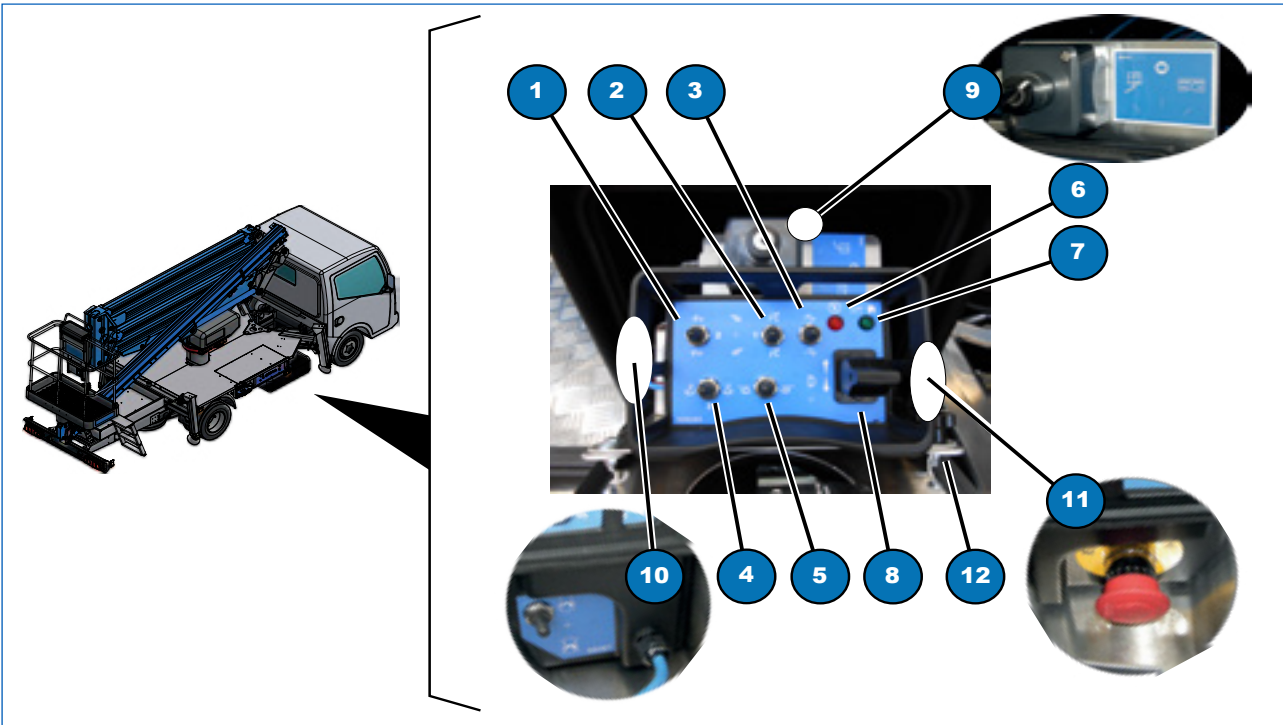

Fig. 4.4
- two are in the mobile ground control console (Fig. 4.4)